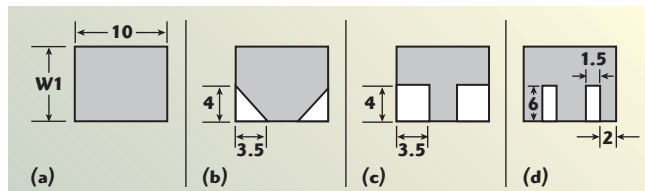

Fig. 2 Geometries of the different feed shapes.
Figure 2 shows the various feed geometries of the proposed antenna. Four feed structures have been tried: rectangular (A), trapezoid (B), two notches (C) and two slits (D).